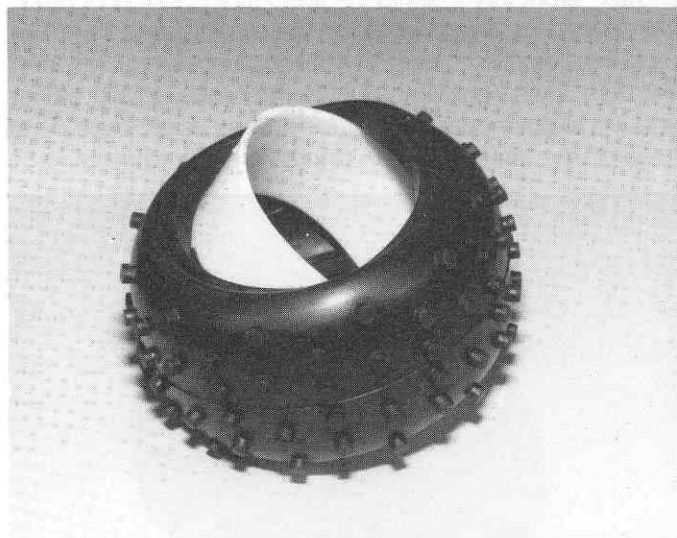

Fig. 196
□ **Fig. 196** Take the rear tires, #6804 and slip the wide plastic rings inside the tires.